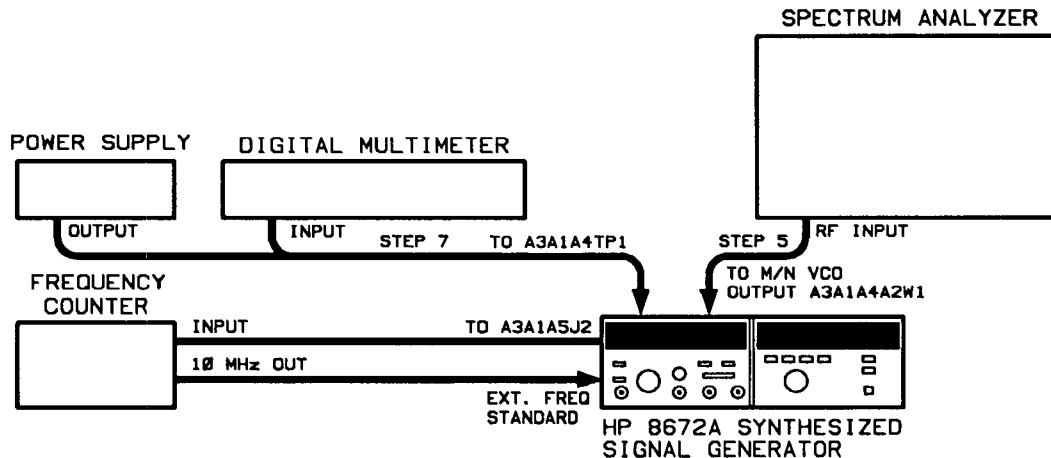

Figure 5-3. M/N VCO Adjustment Test Setup
2. Connect the equipment as shown in figure 5-3.